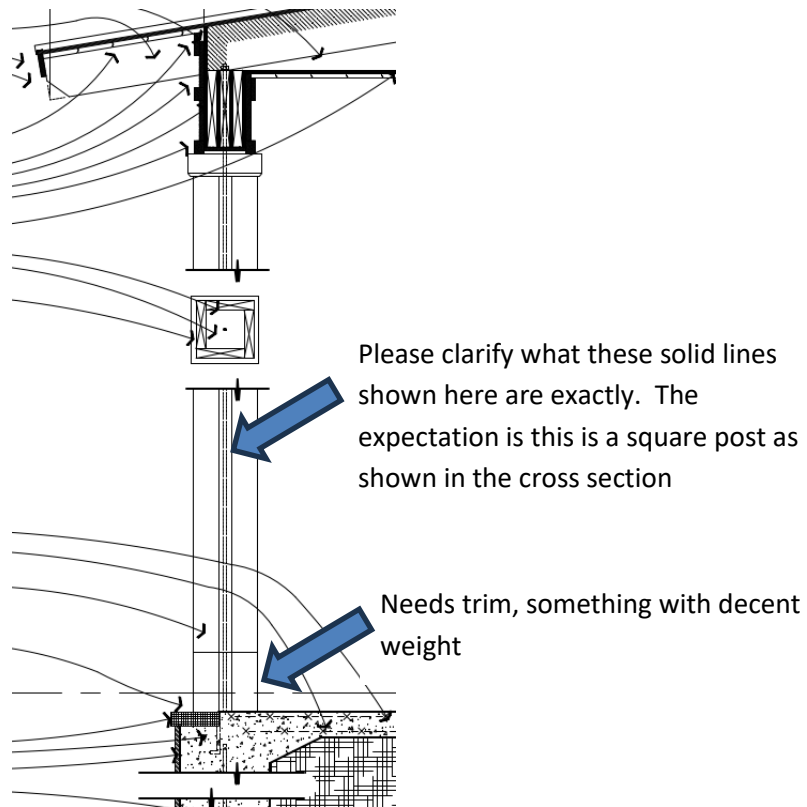

Fig 1. – Post Depiction Clarification
- Clarification of the “vertical lines” shown on post in Fig 1 is required. From the cross section, all posts appear as simple wrapped rectangular sections with seams near the corners, so it is unclear what the solid vertical lines are representing.